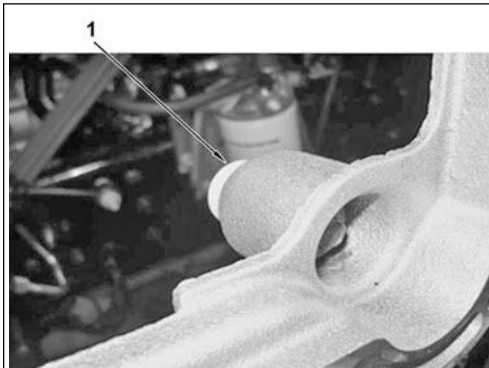

**Figure 15 - ECM Bracket Mounting**
18. Install ECM bracket on to engine (use all 6 rubber isolators) (if back isolators are not installed, fuel lines can rub and cause fuel to leak) and torque ECM bracket bolts to 26 lb-ft (35 N•m) (Figure 15, Item 1).